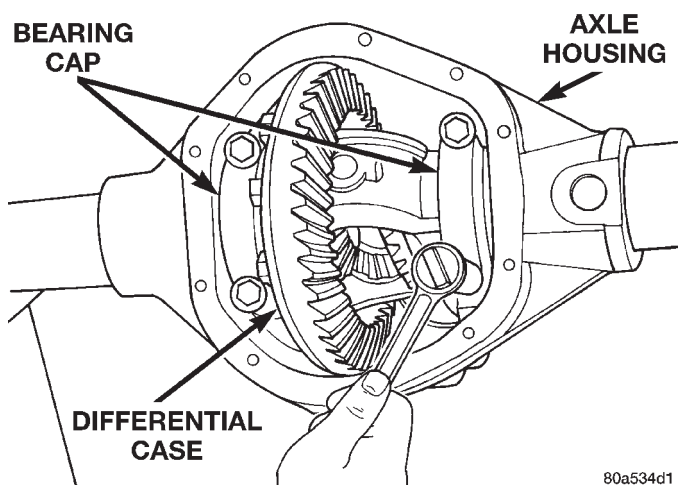

Fig. 65 Tighten Bolts Holding Bearing Caps
- (6) Install the marked bearing caps in their correct positions. Install and snug the bolts (Fig. 65).